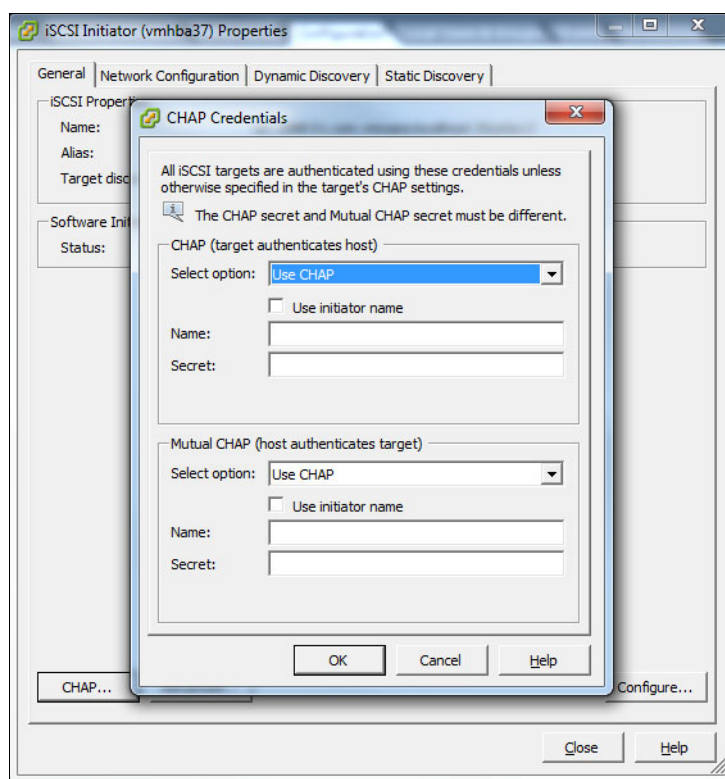

Figure 7-46 Specifying the CHAP credentials
4. As shown in Figure 7-46, select **Use CHAP** for “CHAP (target authenticates host)”. Optionally, you can also select **Use CHAP** for “CHAP (host authenticates target)” if you want to use mutual CHAP.